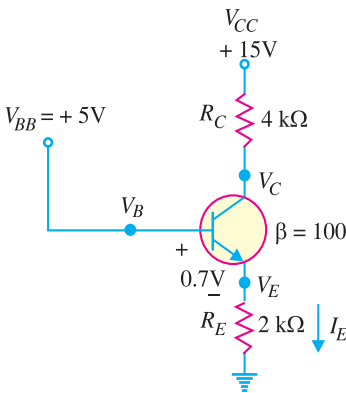

Fig. 8.73
13. For the circuit shown in Fig. 8.73, find (i) the state of the transistor and (ii) transistor power. **[(i) active (ii) 4.52 mW]**